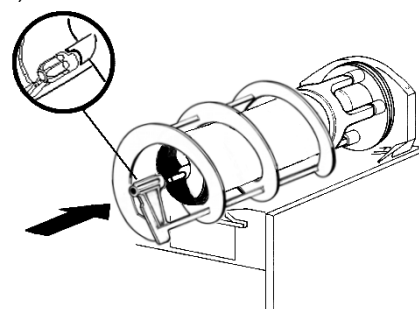

figure 15
- 6 Install the outer spiral. Slide it over the evaporator until its front notch engages with the exposed end of the auger shaft (see figure 15).